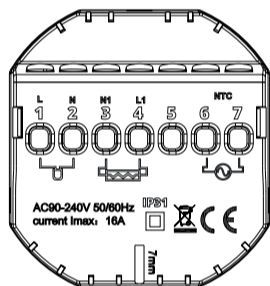
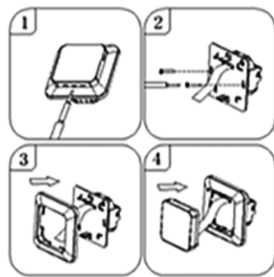

Figure 1. Description of the thermoregulator terminal block
Figure 2. Disassembly of the thermoregulator
The thermoregulator is designed for the installation in a 60 mm electric installation box. For the purpose of the installing, it in the installation box and making the electric connections, you should open its housing very gently (so as not to break the connection tape) by removing the display unit according to the instructions in Figure 2 above. The installation of the thermoregulator should be planned in a place not exposed to the sunlight. Figure 1. shows the thermoregulator terminal block used to make the electric connections. The power supply line of the thermoregulator is connected to the terminals of the thermoregulator terminal block. The neutral wire (N) of the power supply line is connected to the terminal marked with number 2, and the phase wire (L) to the terminal marked with number 1. The heating device (heating mat, heating film) is connected to the terminals of the terminal block respectively, the neutral wire (N1) of the heating device power supply line is connected to the terminal marked with number 3. The external floor NTC temperature sensor should be connected to the terminals marked with numbers 6 and 7, where the polarity is irrelevant. Upon completing the installation and making the electric connections, configure the system according to the next section of this manual.